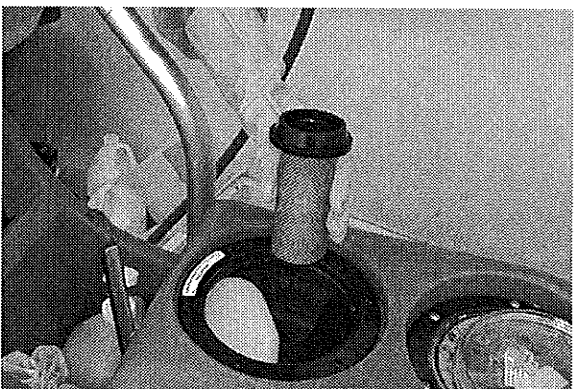

FIG. 41
3. Remove the float shut-off screen from recovery tank cover and clean (Figure 41).